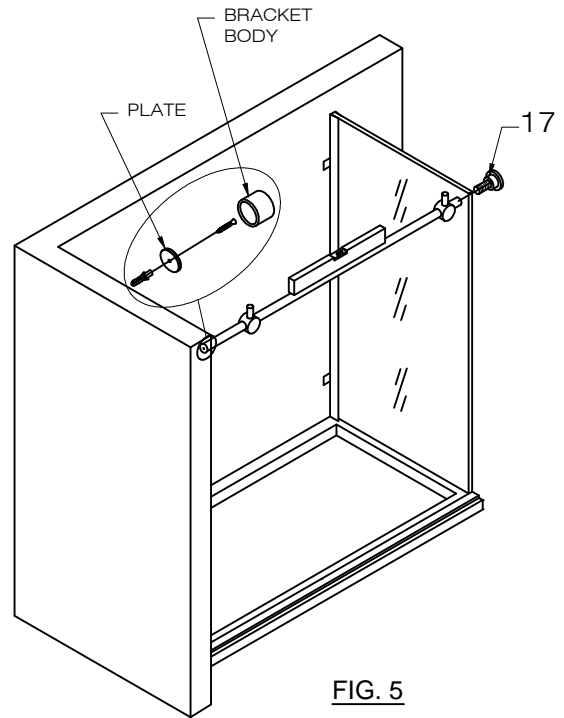

FIG. 5
5. Place the structural rail (#16) inside the wall mount bracket (#1). [SEE FIG.4 & FIG.5]